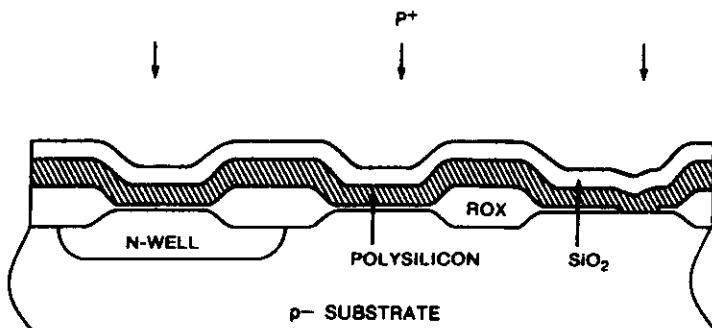

Figure 8. Polysilicon deposition and doping.
5. *Polysilicon Gate Definition.* A layer of polysilicon oxide is then grown over the first polysilicon layer by LPCVD to define device gates. Both layers are then doped by P⁺ ion implant as shown in Figure 8. The gate